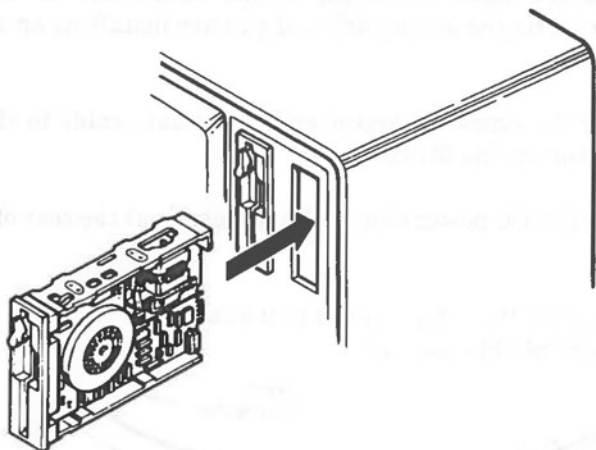

Figure 3-33 Drive Installation
7. Insert the rear end of the drive unit into the rectangular opening in the front panel. Slide it rearward into the computer opening until the front of the drive is flush with the front computer panel (see Figure 3-33).